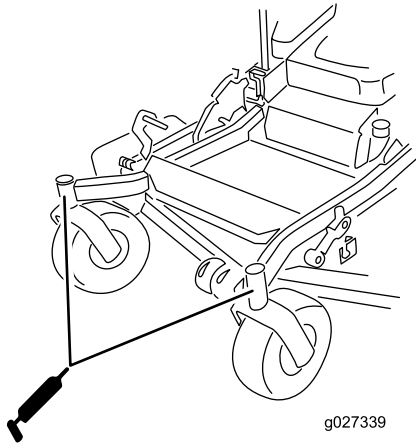

Figure 47
- Install the hex plug and dust cap (Figure 47).
- Grease the caster-wheel bearings (Figure 47).